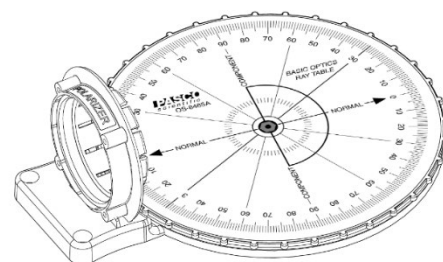

Figure 4: Install Polarizer
1. Install the polarizer, oriented with zero degrees at the top (see Figure 4). The light passing through the polarizer will be vertically polarized (parallel with the surface of the D-lens).